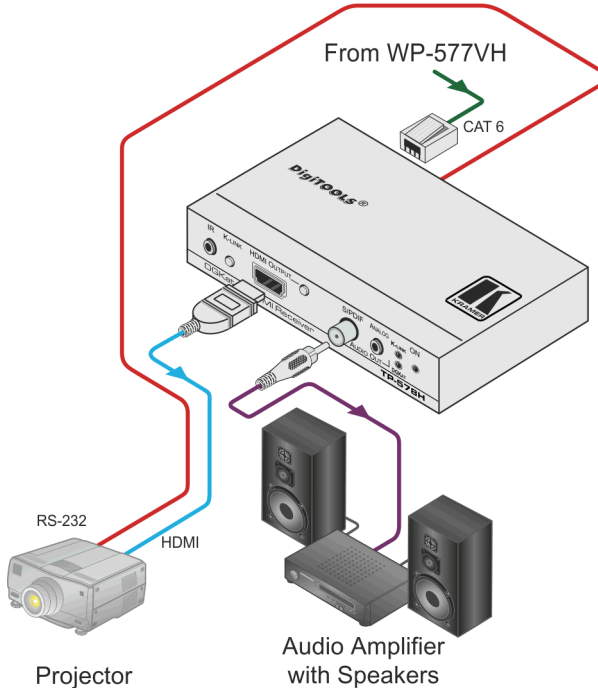

Figure 3: Connecting the TP-578H DKGat to HDMI Receiver
To connect the TP-578H as illustrated in the example in Figure 3:
5. Connect the power adapter to the **TP-578H** and to the mains electricity (not shown in Figure 3).